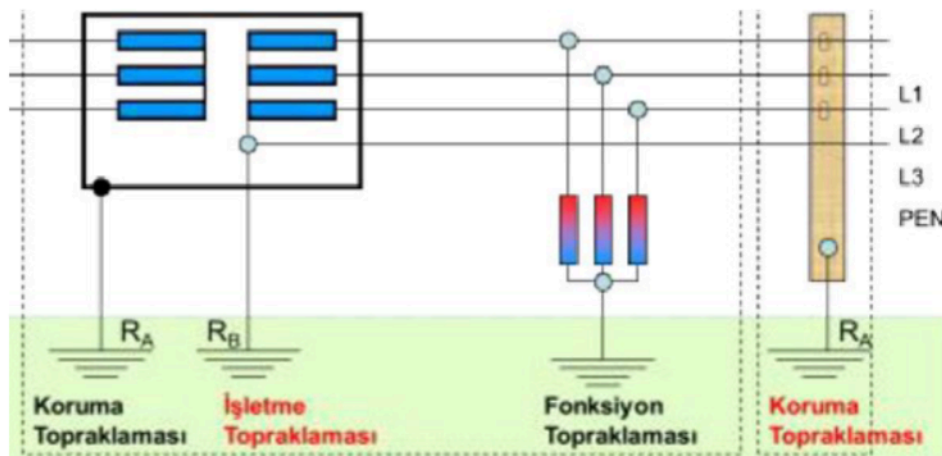

Figure 2: Types of grounding (protective, operational, functional, and protective grounding, from left to right)
1.4. Building Grounding: Grounding that prevents a building from being affected by static electricity. **The types of grounding are illustrated in Figure 2**